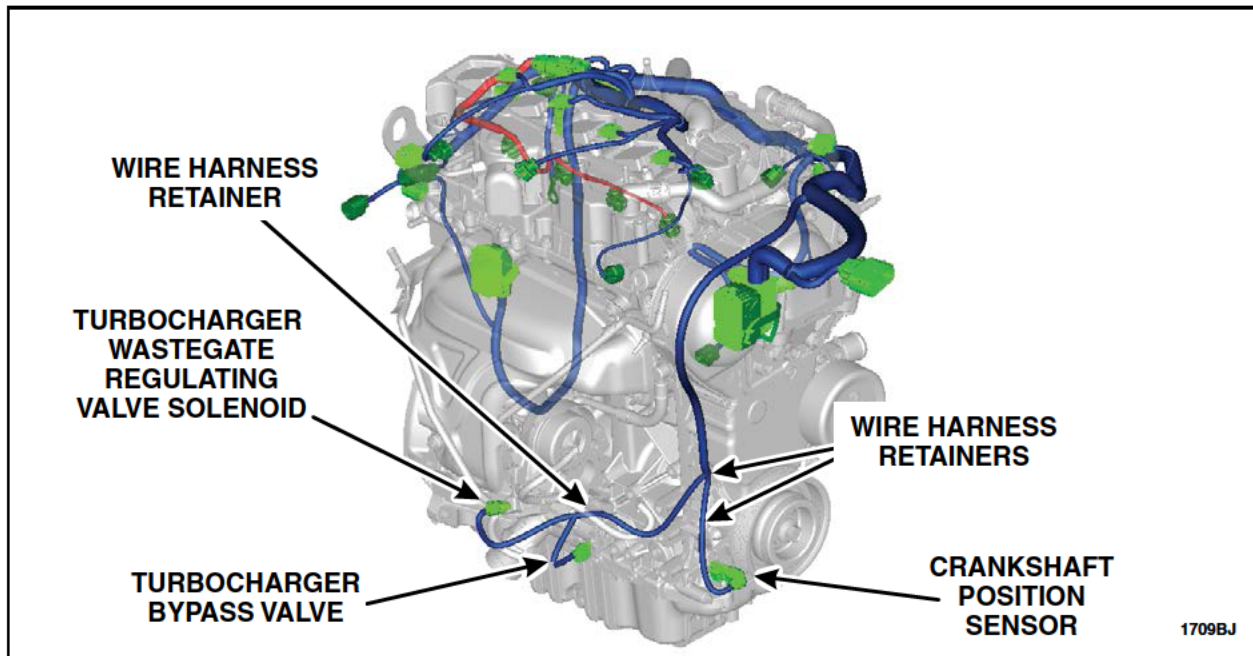

FIGURE A6
12. Detach the three wire harness retainers, disconnect the crankshaft position sensor, turbocharger wastegate regulating valve solenoid, and turbocharger bypass valve electrical connectors. See Figure A6.